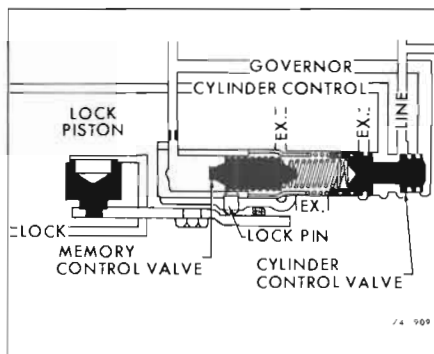

Figure 75-909—Memory Control Valve, Cyl. Control Valve and Lock Piston System
When the Cruise Control system is engaged, the lock pin side loads the memory control valve with sufficient force so that its position will not change for changes in governor pressure. See Figure 75-909. For any given speed setting, the forces of the two (2) springs to the left of the cylinder control valve are constant, and must be balanced by the combination of the two hydraulic forces (governor pressure and cylinder control pressure) to the right of the valve in order for the valve to be in its regulating position. Therefore, as governor pressure decreases, the valve moves to the right, opening the line pressure port to cylinder control pressure, thus increasing the regulated cylinder control pressure to open the throttle. Conversely, an increase in governor pressure moves the valve to the left, partially exhausting cylinder control pressure and thus closing the throttle.